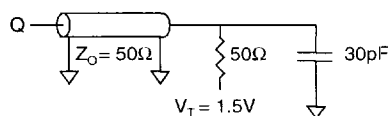

Fig. 1 OUTPUT LOAD EQUIVALENT
Output load .....	See Figures 1 and 2
5. Test conditions as specified with the output loading as shown in Fig. 1 unless otherwise noted.